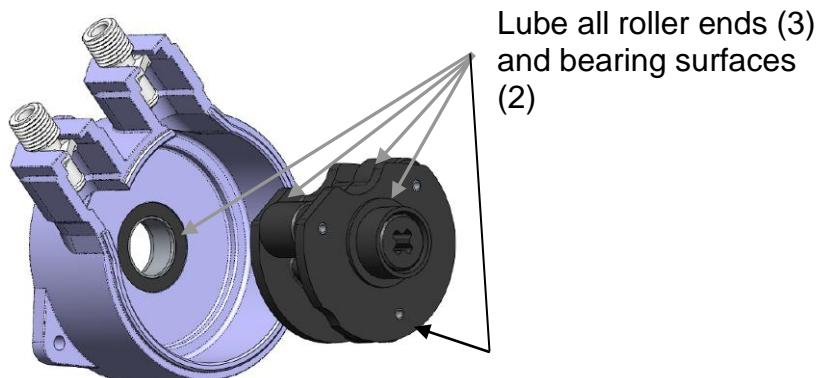

Figure 8: Pump Head w/ Rotor Assembly Removed
**NOTE:** Lubrication of rotor assembly should be performed at least once a year (residential service). Clean front and rear rotor bearings and surfaces with a clean shop cloth (item. No. 8, in assembly drawing on pg. 17). Lubricate with a PTFE thickened, medium viscosity, synthetic grease intended for plastic parts. Ref. Grease Kit (P/N J30257) – see Figure 8.